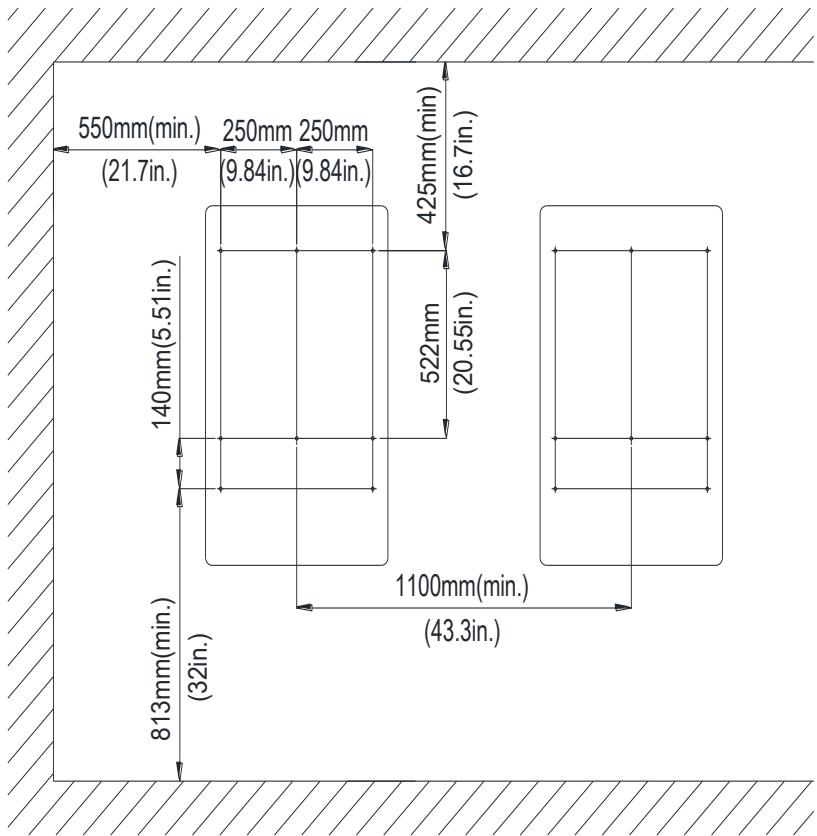

Figure 2.5 - Holes on the Bearing Surface Dimensions
- (1) Mark the 8 holes on the bearing surface for mounting the bracket as shown in Figure 2.5;